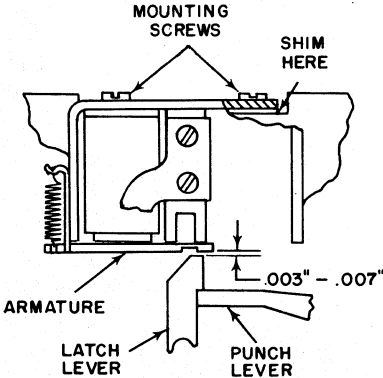

Figure 5
2. The magnet assembly is mounted to the punch casting by two screws. It should be shimmed to provide .003" to .007" clearance between the tips of the latch levers and the undersides of the armatures with the armatures attracted (Figure 5).